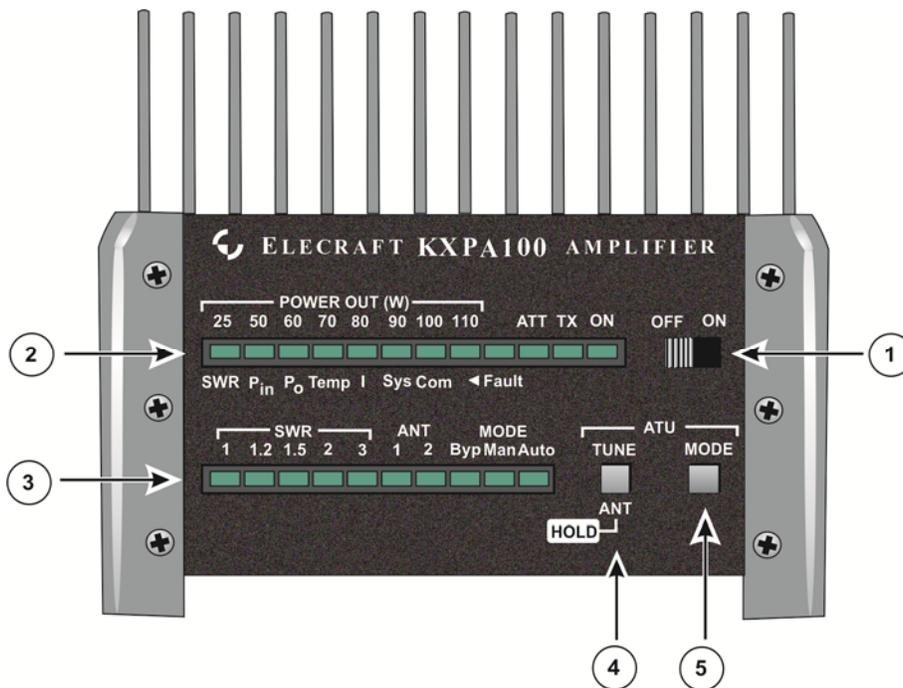

Figure 5. Front Panel Controls and Indicators
**If the station power supply is energized, be sure the power switch on the front panel (see Figure 5 on page 16) is in the OFF position before proceeding.**
① **Ground Connection:** Connect the station ground to the thumbscrew. A good station ground with short, direct leads connecting each piece of equipment is important for consistent, reliable operation.
② **DC Power Connection:**
The front panel controls and indicators are shown in Figure 5 and are described in the following text.
Faults occur to protect the amplifier and ATU if a dangerous, abnormal condition occurs. Normal KXPA100 amplifier or KXAT100 ATU operation is suspended until the fault condition is corrected. Fault conditions are indicated at the KXPA100 by the Fault LED lighting along with one of the LED's to the left, shown in Figure 5 on page 16). If the KXPA100 is being used with an Elecraft KX3 transceiver connected with the KX3 to KXPA100 Adapter Cable, the fault condition will be displayed on the KX3 LCD as well.